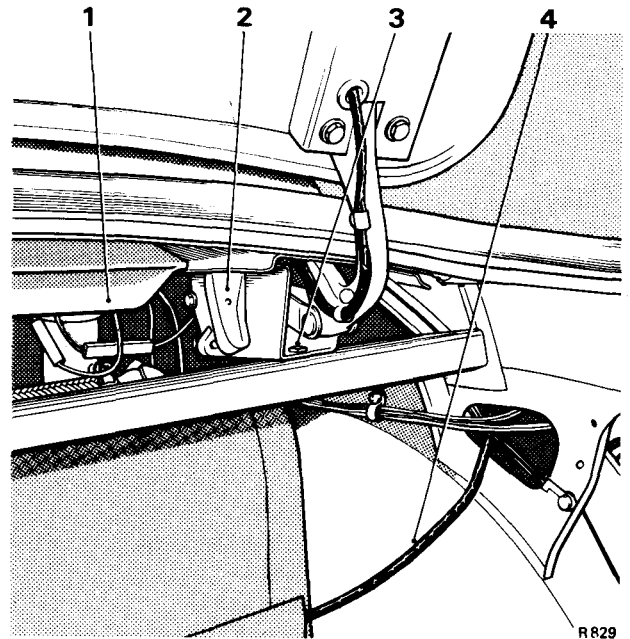
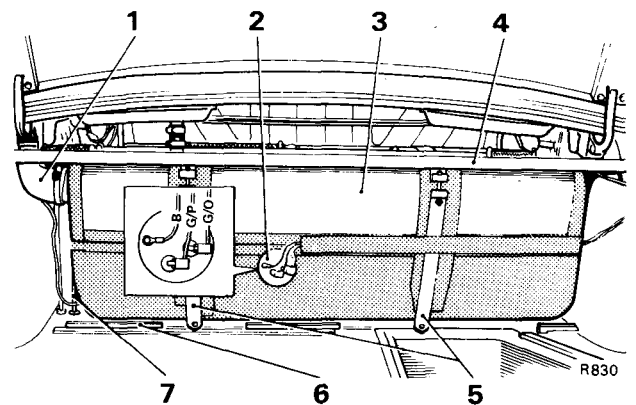

FIG. 4 LUGGAGE COMPARTMENT LID HINGE ASSEMBLY
FIG. 5 FUEL TANK FITTINGS
6. Remove the crossmember (see Figs. 4 and 5); this is secured by a $\frac{7}{16}$ in. A/F nut, bolt and washer to the bottom of each luggage compartment lid hinge assembly.
7. Disconnect the three electrical cables from the fuel tank level gauge (see Fig. 5).
10. Unscrew the worm drive clip securing the rubber filler neck hose to the fuel tank (see Fig. 5); withdraw the hose.
5. Fit the 4,8 mm. ($\frac{3}{16}$ in.) internal diameter rubber hose to the metal pipe situated on the left-hand side of the luggage compartment, adjacent to the panel dividing the luggage compartment from the car interior. (see Fig. 5).
6. Fit the soundproofing panel to the fuel tank and secure in position with tape (see Fig. 5). In addition, fit two pieces of tape around the fuel tank so that the securing straps will sit on the tape when the tank is secured in position (see Fig. 5).
9. Secure the fuel tank in position as follows (see Fig. 5).
17. Fit the crossmember (see Fig. 5), attaching it to the bottom bracket of each of the two luggage compartment lid hinge assemblies with a $\frac{7}{16}$ in. A/F bolt, washer and nut (see Fig. 4).
Tape the cables across the fuel tank until they are adjacent to the fuel gauge sender unit, as shown in Figure 5.
19. Connect the cables to the fuel gauge sender unit as shown in the inset of Figure 5.
20. Locate the base of the carpet covered panel into the wooden runner slots (see Fig. 5) and